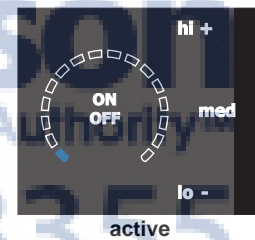
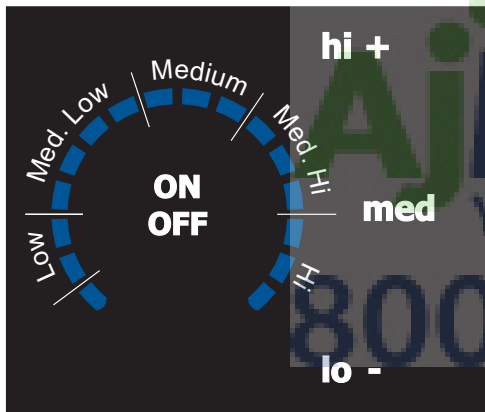

Fig. 2
Fig. 1
Your control control provides different power level settings for each of the cooking or heating zones. These displays have keypads that allow the user to first activate (**ON/OFF**) the needed element and then to quickly turn that element ON using 3 preset power levels (**lo**, **med** or **hi**) - see Figs. 2 through 5 -.
Use the chart below to determine the suggested setting for the type of food you are preparing and refer to -Fig. 1- to help determine the power level setting when using the control display. The power level areas illustrated are only suggested areas to set the control - Fig. 2. Be sure to monitor your food whenever using the cooktop and adjust as needed for the type of food you are preparing.
- Any of the cooking zones will begin to heat **ONLY** when activated - See Fig. 2, p 19. If a power level is not added to the active cooking zone within 10 seconds of being active the control will automatically deactivate the cooking zone.